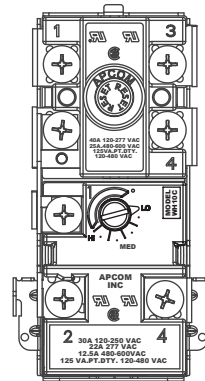
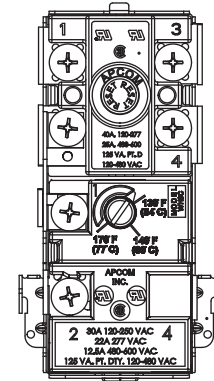
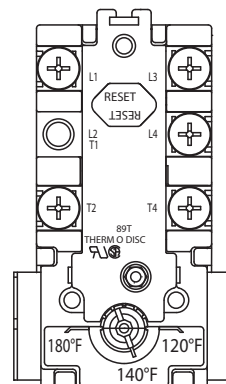
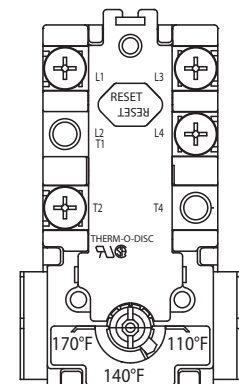

FIGURE 5
FIGURE 6
FIGURE 7
FIGURE 8
3. Depress the red manual reset button on each Thermostat/ECO combination control. (See Figure 5, Figure 6, Figure 7, or Figure 8)
A-8 Circuit thermostats have three designated set points; LO, MED and HI. (See Figure 5). The approximate equivalent temperatures for these three settings are: LO = 140°F (60°C), MED = 160°F (71°C) and HI = 180°F (82°C). These thermostats are set from the factory at the LO 140°F (60°C) setting. The over temperature device (ECO high limit) attached to each thermostat has a manual reset. The C-2 circuit thermostat is adjustable from approximately 130°F (54°C) to 170°F (77°C) (See Figure 6). These thermostats are set from the factory at
A-8 circuit thermostats are adjustable from approximately 120°F (49°C) (lowest setting) to 180°F (82°C) (highest setting) (See Figure 7). The C-2 circuit thermostat is adjustable from approximately 110°F (43°C) to 170°F (77°C) (See Figure 8). These thermostats are set from the factory at approximately the 140°F (60°C) setting. The over temperature device (ECO high limit) attached to each thermostat has a manual reset.